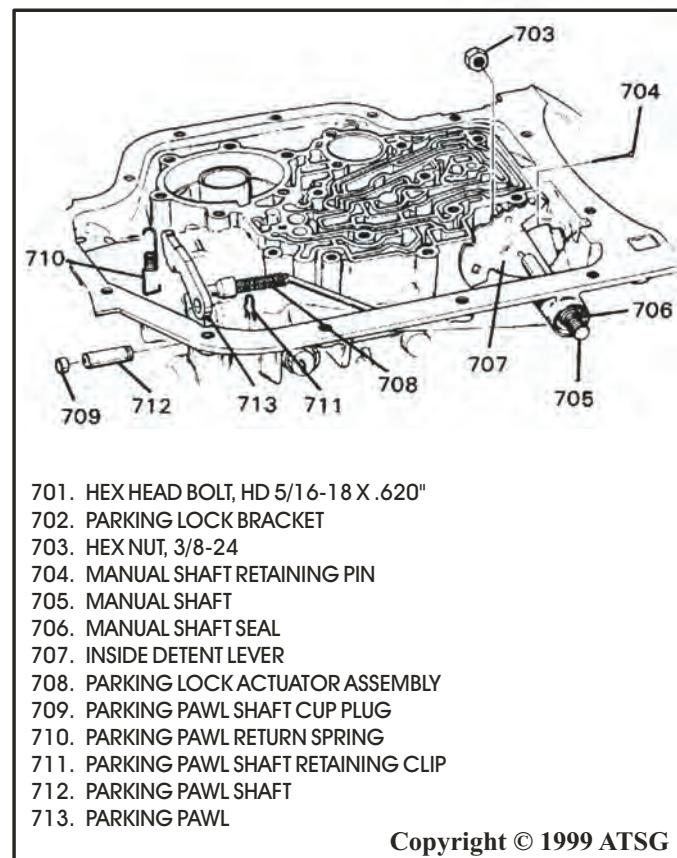

Figure 54
5. Install the parking pawl into case, and while holding in proper position, install parking pawl pin through case bore through hole in parking pawl (See Figures 54 and 55).
6. Install parking pawl shaft cup plug into case bore using pin punch (See Figures 54 and 55).
7. Install the retaining clip into the groove in the parking pawl shaft (See Figures 54 and 55).
9. Install a new manual shaft seal into the case bore using a 1/2" deep socket (See Figure 54).
10. Install the manual shaft through the seal and into the case bore (See Figure 54).
14. Install the 3/8-24 nut onto the manual shaft and tighten securely (See Figures 54 and 55).